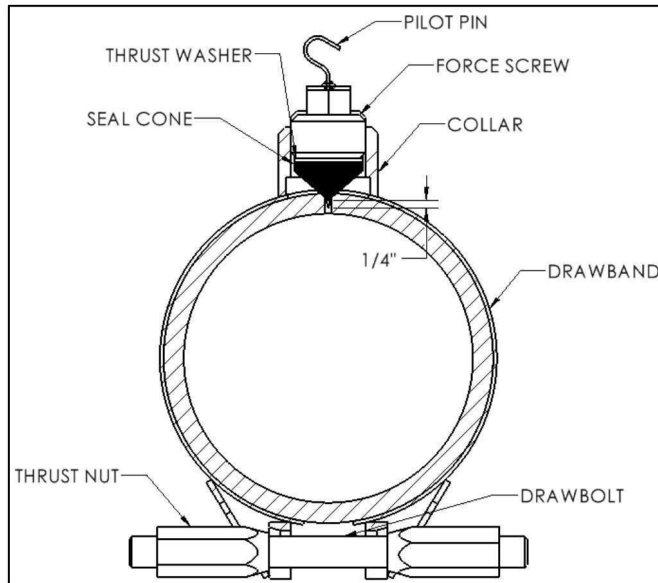

Figure 1
1. Remove the pilot pin point protector and adjust the pilot pin so that it protrudes approximately 1/4 inch (6.4 mm) beyond the seal cone. Adjust the force screw until the tip of the seal cone is flush with the inside surface of the PLIDCO Smith+Clamp as shown in Figure 1.
6. Hold the PLIDCO Smith+Clamp firmly in position until the drawbolt and thrust nuts are tightened to the torque value indicated in Chart A. Ensure there is full nut engagement by having equal lengths of the drawbolt protruding from the thrust nuts on either side as shown in Figures 1 & 2.
8. Tighten the force screw to a torque value between 70 to 80 ft-lbs (or 95 to 109 Nm). Completed assembly should look as shown in Figure 1 or 2, less the pilot pin.